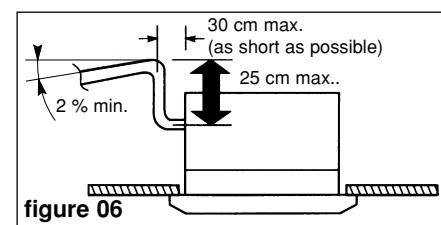

figure 06
- If necessary, the condensate tube can be raised immediately after the unit's outlet. Max. height: 25 cm (figure 06).
- Make sure that the drain line has a slight slope in the flow direction and that it does not form a siphon (figure 06).